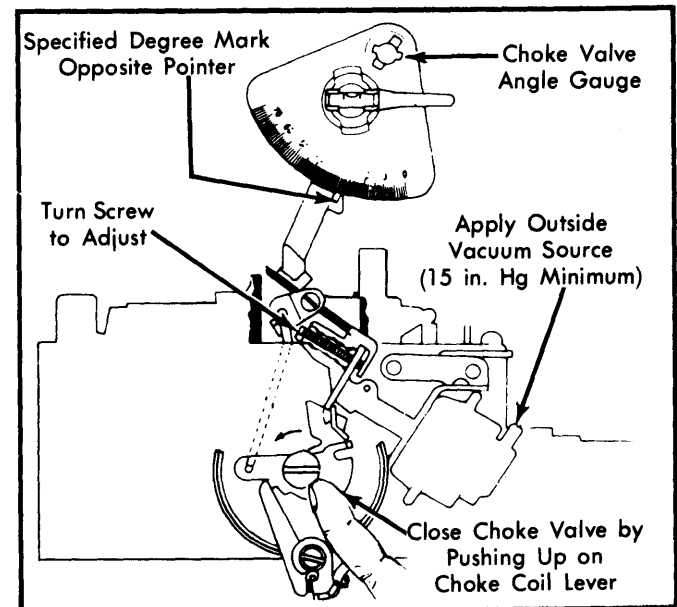

Fig. 6 Adjusting Front Vacuum Break
1) Using an outside vacuum source of at least 15 in. Hg, seat primary (front) vacuum break diaphragm. See Fig. 6.